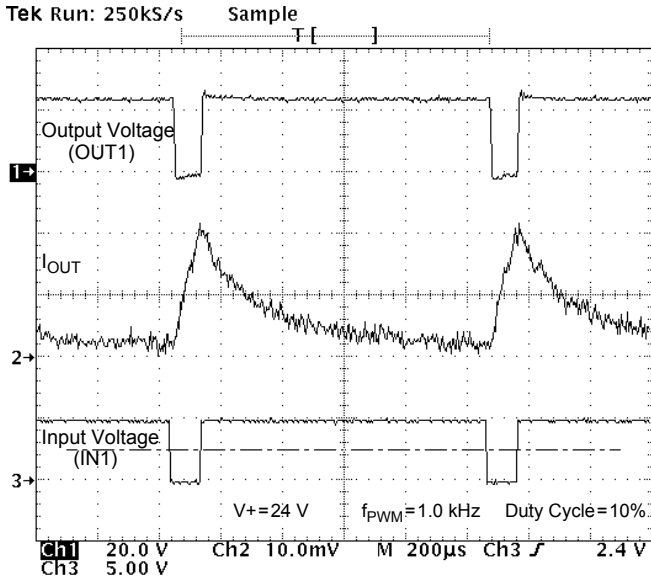

Figure 11. Output Voltage and Current vs. Input Voltage at $V^+ = 24 \text{ V}$, PMW Frequency of 1.0 kHz, and Duty Cycle of 10%
20. The outputs can be PWM controlled from an external source. This is typically done by holding one input high while applying a PWM pulse train to the other input. The maximum PWM frequency obtainable is a compromise between switching losses and switching frequency. Refer to Typical Switching Waveforms, Figures 11 through 18, pp. 12–13.